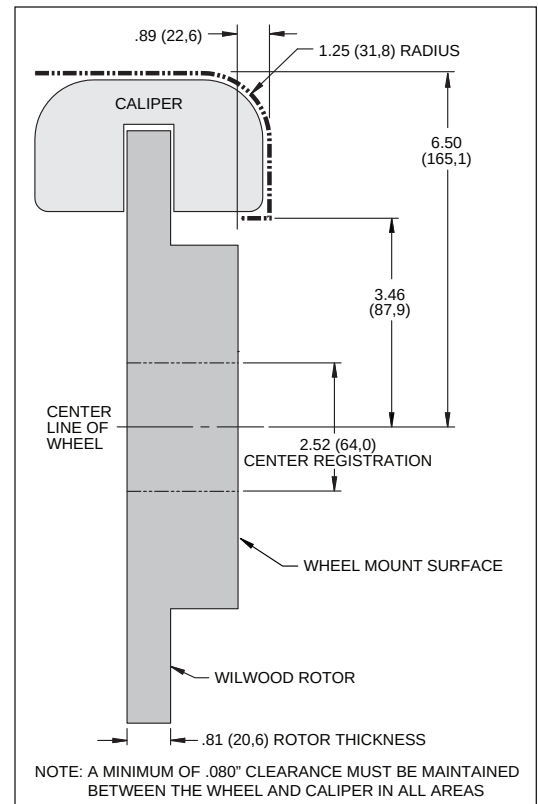

Figure 3. Wheel Clearance Diagram
- Review the wheel clearance diagram (Figure 3) to verify that there is adequate clearance with the wheels you will be using with the installation.
•Verify your wheel clearance using Figure 3.